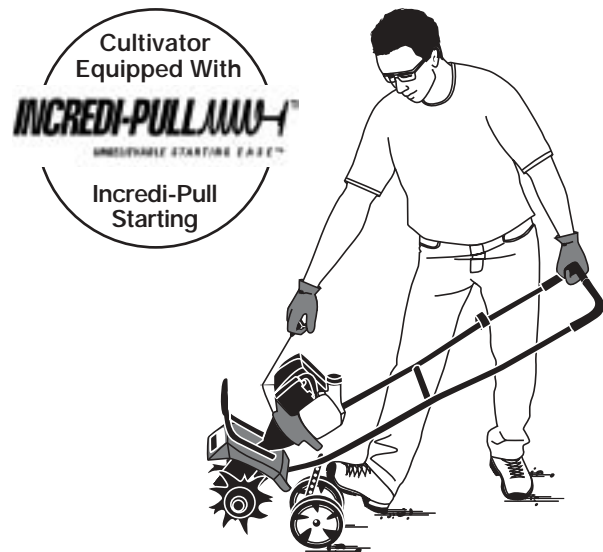

Fig. 12
**WARNING:** Avoid accidental starting. Make sure you are in the starting position when pulling the starter rope (Fig. 12). To avoid serious injury, the operator and unit must be in a stable position while starting.
6. Hold the throttle and handlebar with one hand and grab the starter rope with your other hand. Use your foot to hold down the cultivator (Fig. 12).